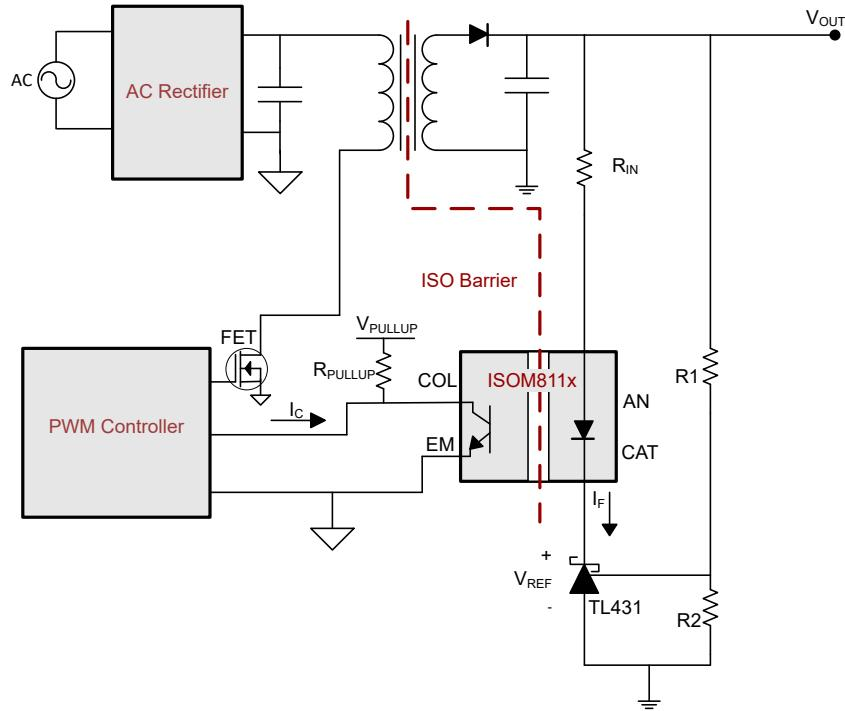

Figure 9-1. Typical Isolated Power Supply Application Using ISOM811x
**Figure 9-1** illustrates a typical isolated power supply. In this implementation, the output voltage is sensed by an error amplifier using the resistor divider (R1 and R2). Depending on the voltage level that the error amplifier senses, the TL431 can drive the current of the ISOM811x higher or lower which is then compared to a voltage reference. The information is passed across the isolation barrier through ISOM811x to the primary side, where the PWM control circuit modulates the power stage to regulate the output voltage. The TL431 and ISOM811x play an important role for stable feedback and control loop.
The input side of ISOM811x is current-driven. To limit the amount of current flowing into the AN pin, placing a series resistor,  $R_{IN}$ , in series with the input as shown in Figure 9-1 is recommended.